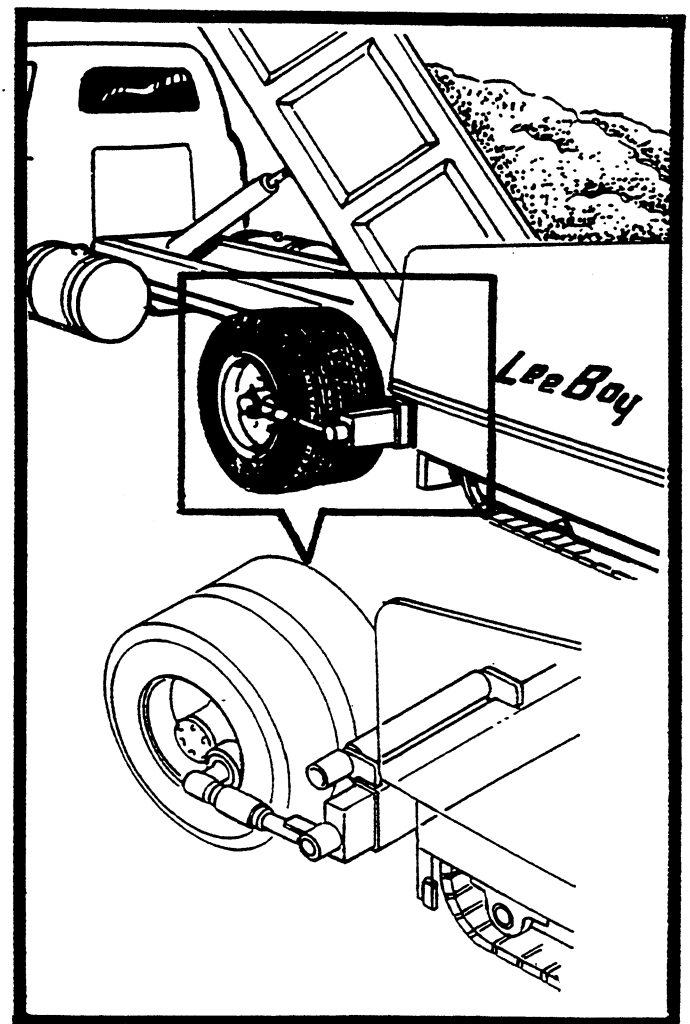

FIGURE 9
4. May be necessary to adjust the roller guides to the inside of the wheel rims, initially. See figure 9.